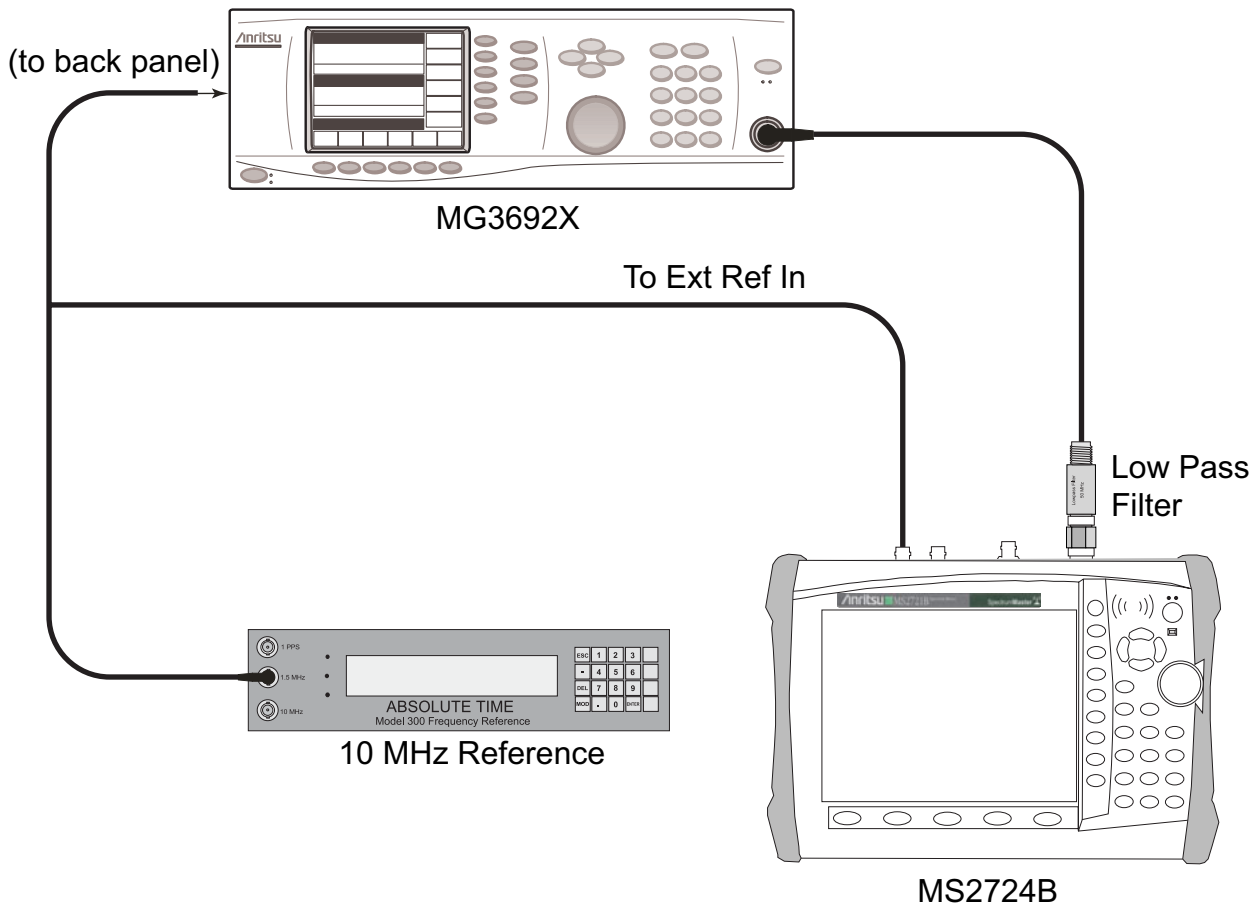

Figure 2-4. Spectrum Analyzer Second Harmonic Distortion – Test Setup
2. Connect the synthesized signal generator output to the Spectrum Analyzer RF In connector of the MS2723B or MS2724B through the 50 MHz lowpass filter, as shown in Figure 2-4.
5. Press the **Shift** key and then the **Trace** (5) key. Press Trace A Operations and set # of Averages to 5.